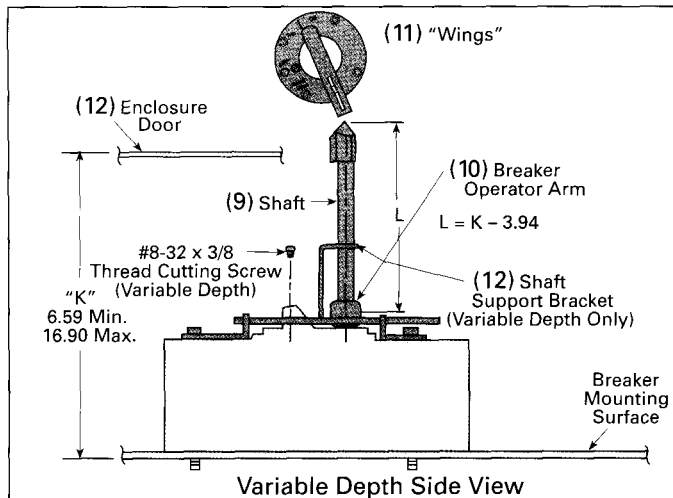

Figure 4
NOTE: The proper orientation of the "wings" (11) (shown in off position) at the end of the shaft when the breaker is in the OFF position (Figure 4).